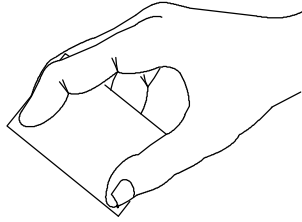

Figure 13
2. Hold one end of the polishing film between the index and middle fingers, and hold the other end between the thumb and ring finger with the abrasive side of the film facing up. Pull the film taut, and air polish the connector tip by gently rubbing the tip of the connector in small circles (or figure-8 pattern) until the protruding stub of the cleaved fiber no longer makes scratches on the film. See Figure 13.